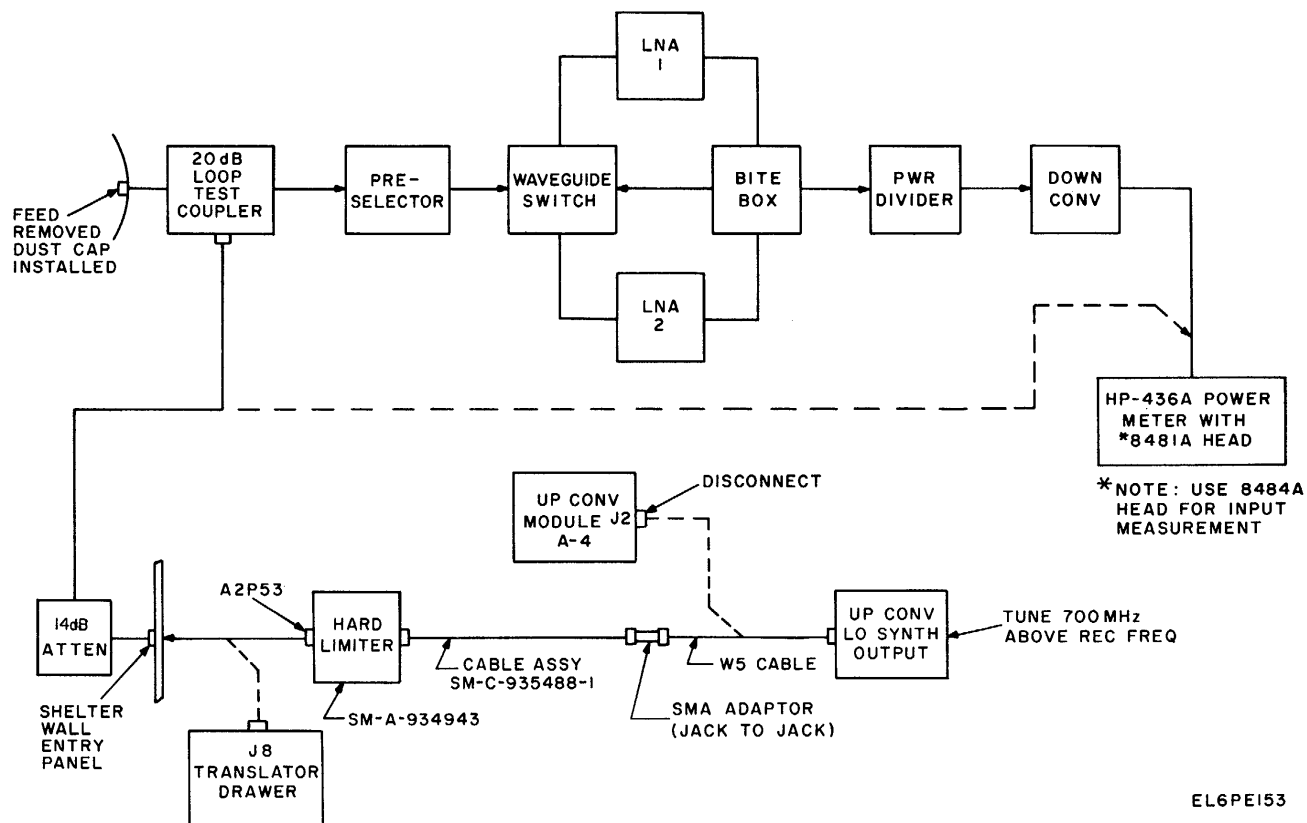

Figure 8-1. Overall Receiver Gain Field Calibration.
a. *Test Method.* Receiver gain is calibrated using , signal sources within the terminal in conjunction with precision attenuators and a low level SHF hard limiter, as shown in figure 8-1. A signal at the local receiver frequency is obtained from the SHF LO output of the frequency synthesizer in the up converter drawer. The output level of this signal is between the limits of + 6 and + 12 dBm, and is passed through the SHF hard limiter and a 6 dB attenuator to provide a nominal -52 dBm signal at the 20 dB waveguide coupler on the AME subassembly, which gives a nominal -72 dBm signal at the LNA input.